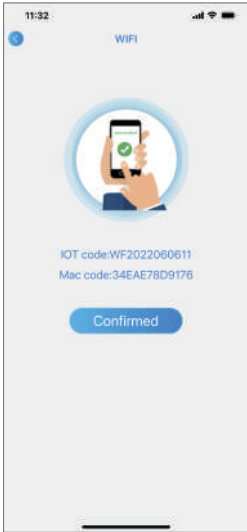

Fig.18 Bond device done interface
- 8.Click "Confirmed", device bond is done (Fig.18).